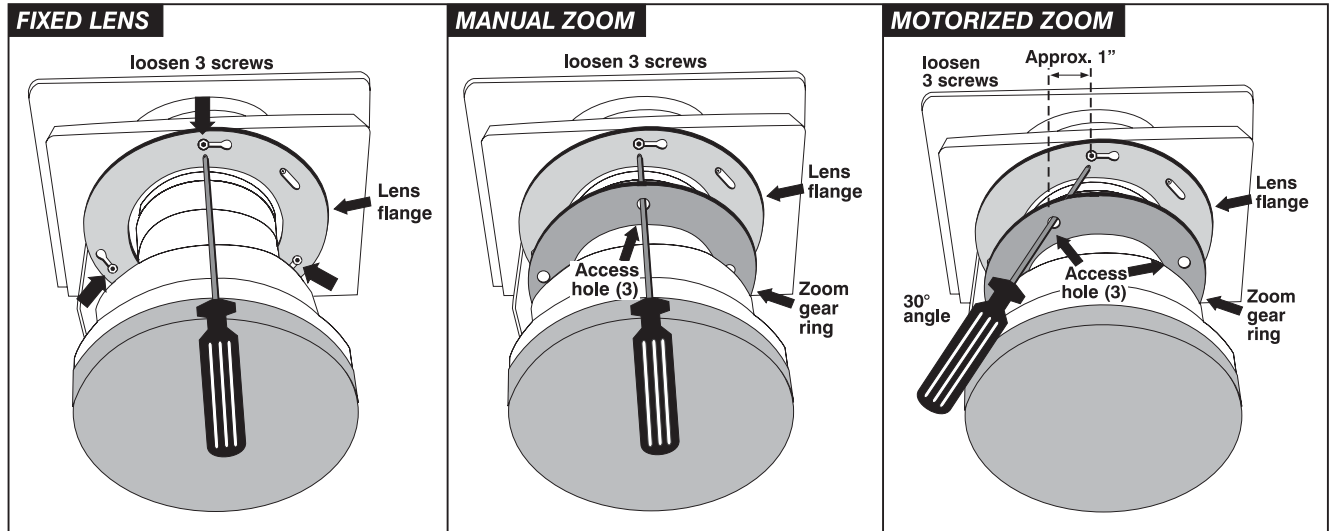

Figure 4.11. Accessing the Lens Mount Screws
Use the hex socket ball driver provided with the projector to loosen the 3 lens mount screws securing the lens flange to the mount—loosen these screws only, do not remove. Accessibility is illustrated in Figure 4.11.
align with the screws beyond, then insert the hex socket ball driver as shown. See Figure 4.11.
- **IF MOTORIZED ZOOM LENS:** As shown in Figure 4.11, the 3 access holes on the zoom gear will be “skewed” away from the lens mount screws (see *Before You Begin* instructions). Insert the hex socket ball driver through the holes at approximately 30° to access each screw. Aim *down* for 4 o’clock screw, aim *up* for 8 o’clock screw.
Secure the 3 lens mount screws. Refer back to *Figure 4.11. Accessing the Lens Mount Screws*—note 30° angle of hex driver required to secure a motorized zoom lens.